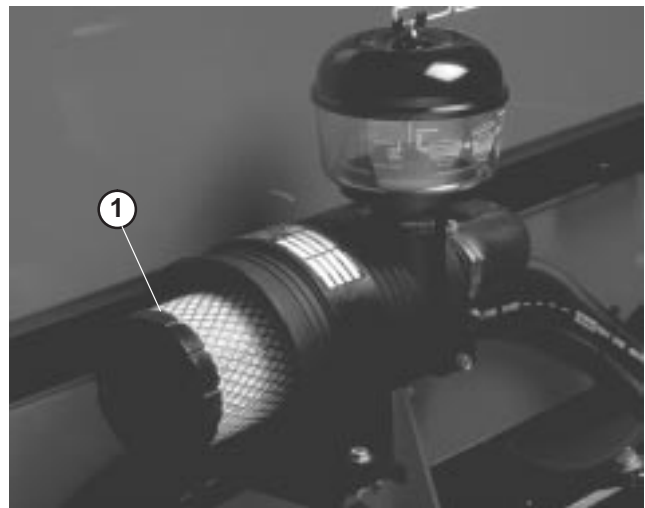

Figure 47
2. Gently slide filter element out of air cleaner body (Fig. 47) to reduce the amount of dust dislodged. Avoid knocking filter against air cleaner body.